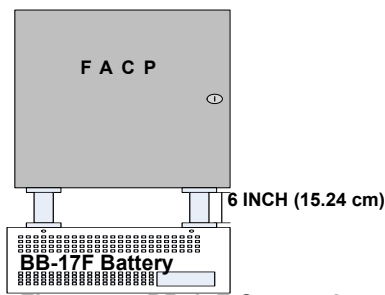

Figure 4.5 BB-17F Connection to FACP
2. Align the knock-outs in the FACP and BB-17F (see Figure 4.5). Anchor the BB-17F cabinet to the wall using 1/4" diameter holes in back of the cabinet.